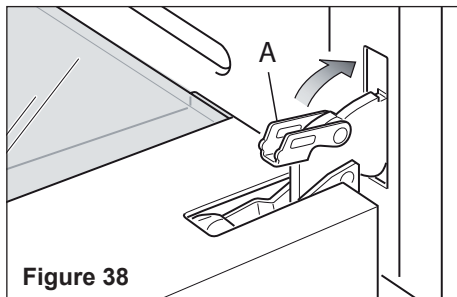

Figure 38
- Unlock the oven door by opening it completely and closing the lever "A" on the left and right hinges (fig. 38).